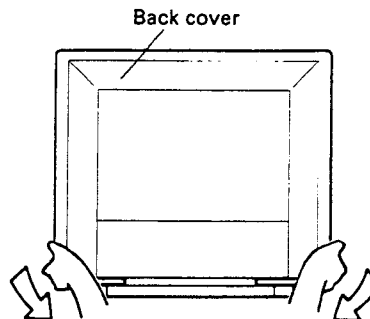

Fig. 1
4. Hold the low corners of the Back Cover and release them a little. (Refer to Fig. 1). Moving around the periphery of the Back Cover (Refer to Fig. 2) release and remove it from the Cabinet Front.